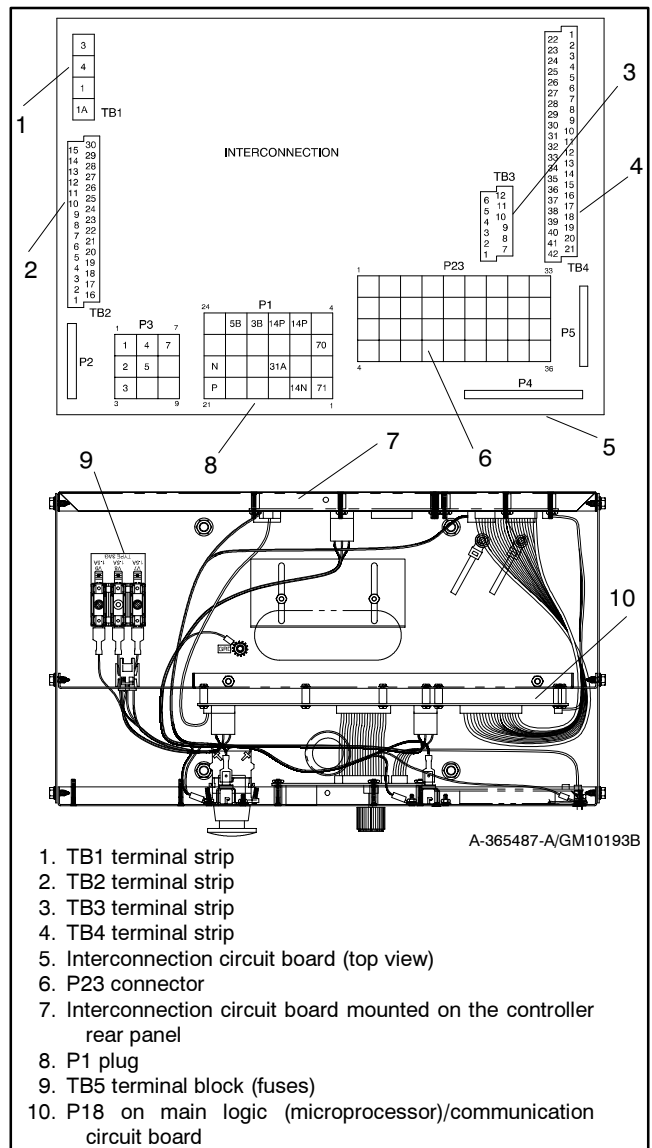

Figure 2 Disconnecting Controller Circuit Board External Wiring Connections
5.1 Remove the controller cover. If access to the interconnection circuit board on the rear panel and/or the main logic/communication circuit board on the front panel is difficult, partially disassemble the controller box. Remove the two controller panel top screws and center bottom screw and then loosen the bottom screw on each side to swing the controller panel down. See Figure 2.
5.2 Disconnect the 550 controller harness leads. Listed below are some common leads and plugs that require removal or disconnection. Items below in **bold** are shown in Figure 2. These connections are typical and may not apply to all situations. See the corresponding wiring diagram found in the wiring diagrams manual.
8.1 Remove the controller cover. If access to the interconnection circuit board on the rear panel and/or the communication circuit board on the front panel is difficult, partially disassemble the controller box. Remove the two controller panel top screws and center bottom screw and then loosen the bottom screw on each side to swing the controller panel down. See Figure 2.